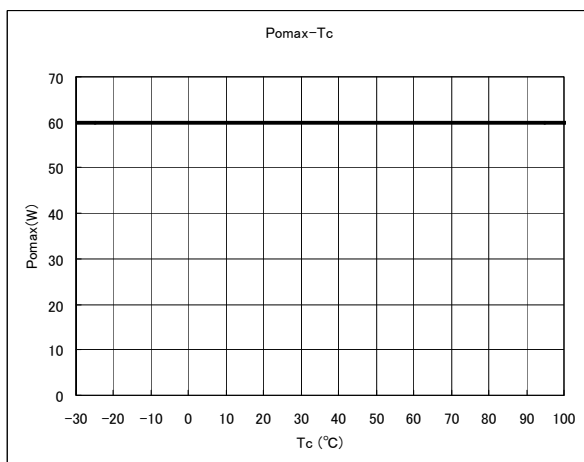
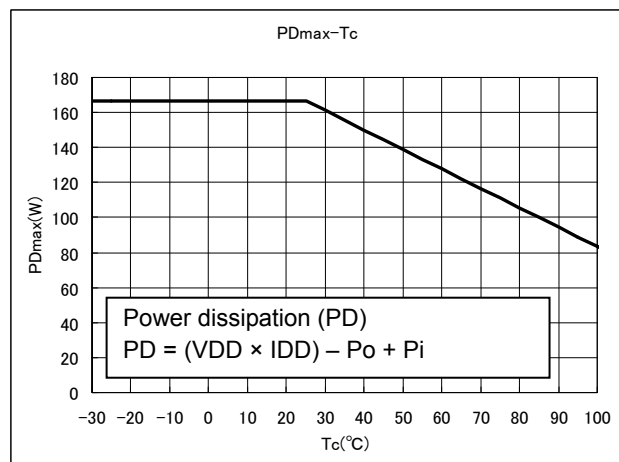

Figure.1 Pomax-Tc
Figure.2 PDmax-Tc
Note 2: The output power rating satisfies the range shown in Figures 1 and 2 according to the operating case temperature. Ensure that the device should be operated within the specified operating range. The figures below indicate the output power obtained 2 seconds after P_o is generated.
*When the device is used at $T_c = 100^\circ\text{C}$, the output power rating is 60 W as shown in Figure 1. When the power dissipation at $T_c = 100^\circ\text{C}$ exceeds the rating shown in Figure 2, the output derating is required to limit the dissipation within the specified range.
Note 5: The output power is intended to follow the rating provided in Figure 1 in Note 2.